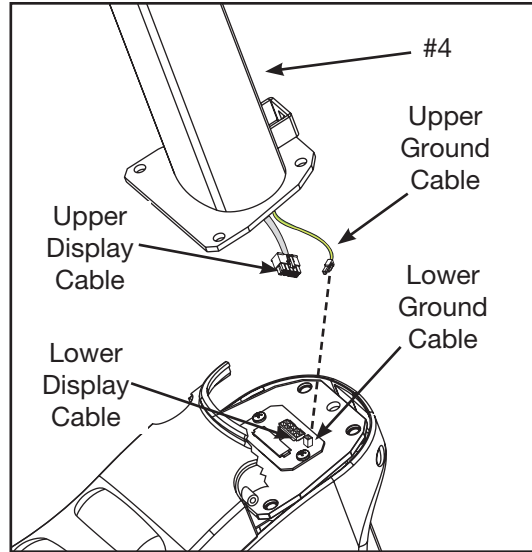

Figure 5
- B.** Locate the upper display cable and plug it into the lower display cable in the main frame assembly. See Figure 5.
- C.** Locate the upper ground cable and plug it into the lower ground cable on the main frame assembly. See Figure 5.